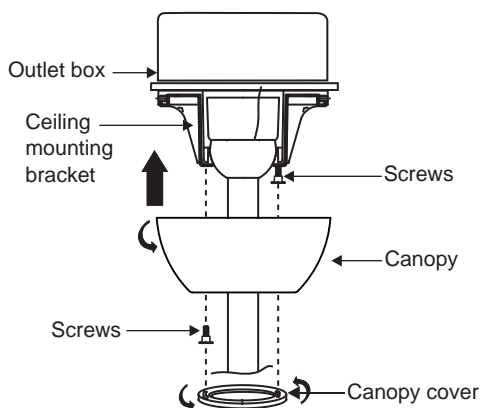

Fig. 10
1. Now lift the motor assembly into position with the hanger ball in the position (shown in Fig. 10).
2. Now, rotate the "entire fan and slope adaptor assembly" (left or right) by rotating the hanger bracket until the downrod and the ceiling fan assembly are hanging straight down and the entire assembly "swings" freely in the exact direction of the ceiling slope. (Fig. 10)
4. Slide the canopy up to the ceiling and place the mounting screws through the key holes in the face of the canopy. Rotate canopy clockwise. (Fig. 10)